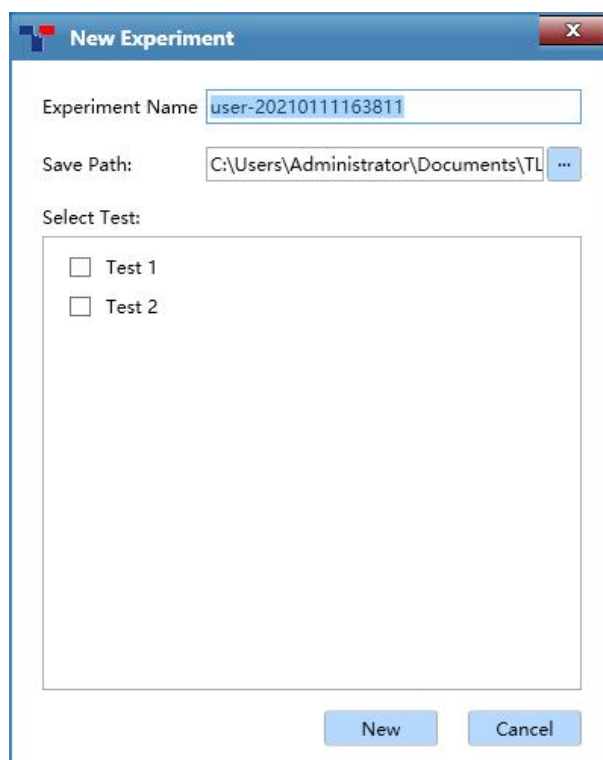

Figure D-2.1d. Quick Start Bar - New Experiment from Test Template
- Click < **New Experiment from Test Template** > and the new experiment window will automatically pop up, as shown in figure D-2.1d. User can input the **Experiment Name** and select the **Save Path** for the new experiment. According to the specific test item of the new experiment, user can select the test template and click < **New** >, the application software will create a new experiment file with same experiment settings as the selected test template.